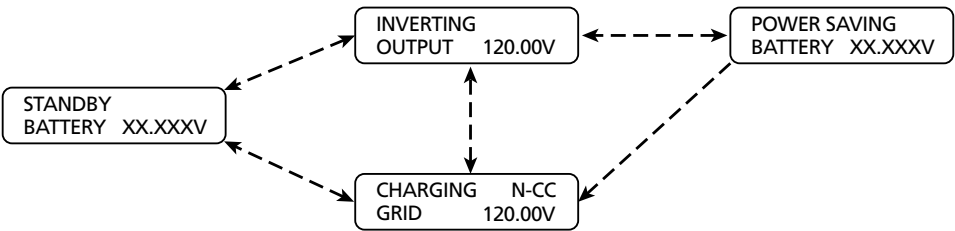
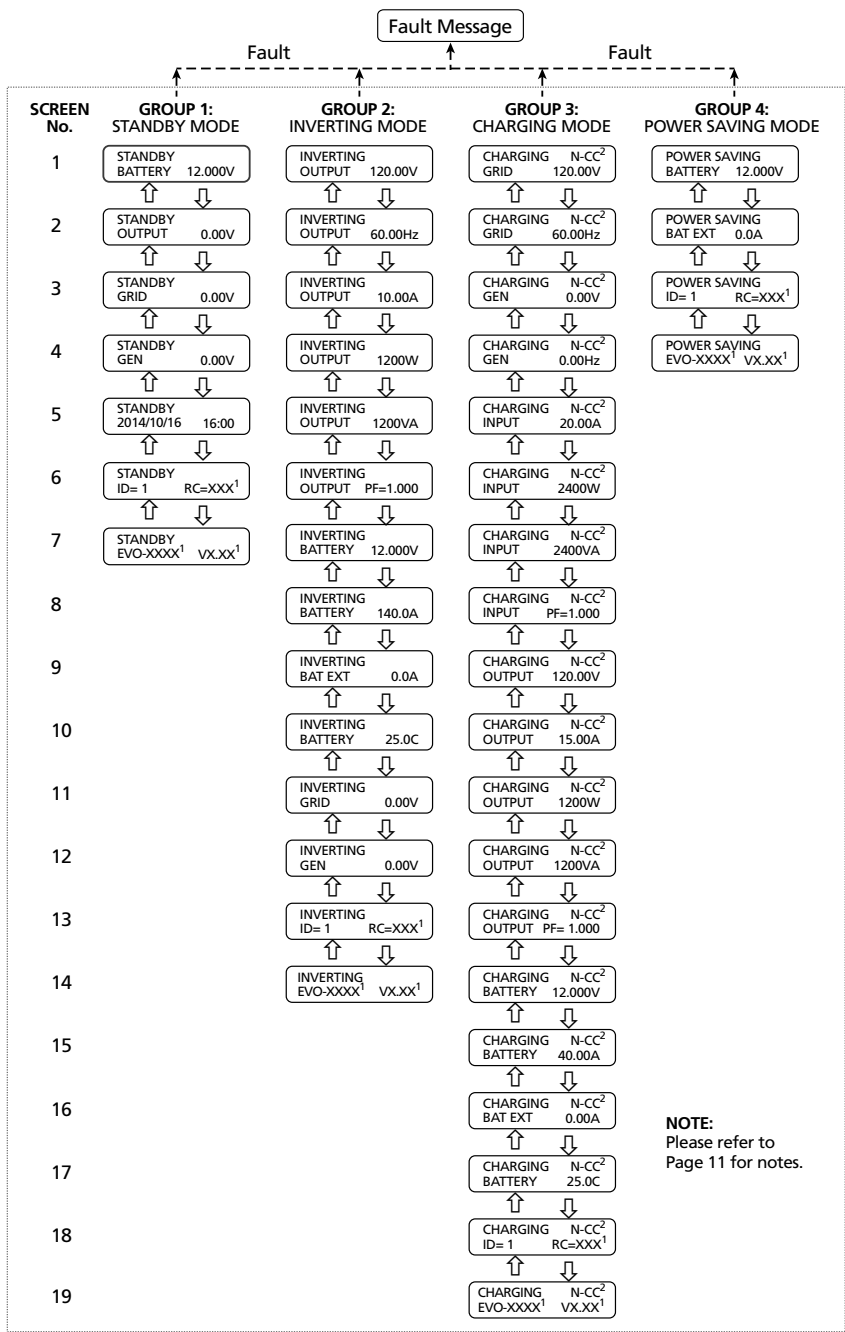
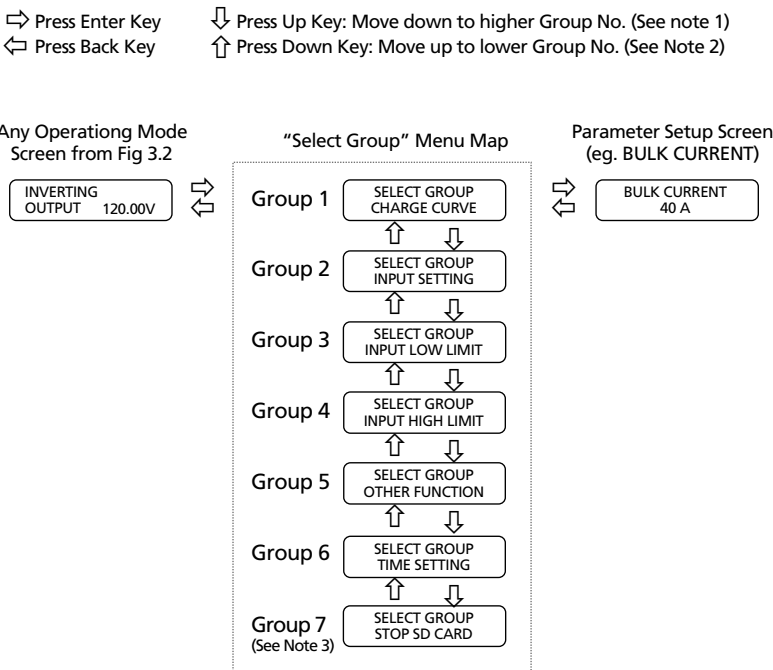

Fig 3.1 EVO-RC Mode Screens
Fig 3.2 Overall Operating Mode Display Screen Menu Map
Fig 4.3 "Select Group" Menu Map and Example for Setting Bulk Current
For the Standby Mode to be switched ON, the EVO™ should be in ON condition and should be operating in one of the 3 Operating Modes – “Inverting” or “Charging” or “Power Saving” (See Fig 3.1). When Standby Mode is switched ON, the EVO™ will exit its Operating Mode i.e. inverting or charging / AC pass through will be suspended.
(Fig 3.1)
There are 4 Operating Modes for the EVO™ Inverter/Charger that will be displayed on the Remote Screen at any given time (see Fig 3.1): (i) Standby (ii) Inverting (iii) Charging and (iv) Power Saving. Each mode has several screens of status information such as Voltage/Current/Power etc. as detailed at Section 3.6.2 and Fig 3.2. The majority of Mode Screens shown in Fig 3.1 are self explanatory, but the Charging Mode Status Screens require additional details which are shown at Section 3.6.1.
Please refer to 19 Screens shown against Screens 1 to 19 under Group 3: "CHARGING MODE" at Fig 3.2. The 1st line of the Display Screen for Charging Mode shows CHARGING on the left and abbreviated information format "Charging Mode - Charging Stage" on the right corner. The following abbreviations have been used:
For example, in Fig 3.2, the 1st line of information under Column 4 (Group 3) "Charging" shows "N-CC" in the right corner. This means that the unit is in Normal (N), 3-Stage Charging Mode and is in Constant Current (CC) Bulk Stage.
Overall Operating Mode Display Screen Menu Map is shown at Fig 3.2. Any screen within the Menu Map can be identified by 2 co-ordinates: "Operating Mode Group No." (Column) and "Screen No." (Row).
NOTES FOR FIG 3.2:
The desired Parameter Setup Screen can be reached by navigating through the “Parameter Group” Menus as shown in the Parameter Group Menu Map at Fig 4.3.
Please refer to Fig 4.3 below.
The **Enter** key is used to enter Parameter Setup Mode from any Operating Mode Screen in Fig 3.2. Example in Fig 4.3 below starts with Inverting Mode Screen (Operating Mode Group 2, Screen 1 in Fig 3.2). After the **Enter** key is pressed, the **Up/Down** keys are used to navigate to the different Parameter Groups (Groups 1 to 7). When the Group for the desired setting is displayed on the LCD, the **Enter** Key is used again to select this Group. The **Up** and **Down** Keys are used to move to the individual parameters within the Group.
NOTES FOR FIG 4.3:
Starting from any of the 4 Operating Mode Screens (shown at Fig 3.1), press **Enter** key. Screen "SELECT GROUP, CHARGE CURVE" as shown on the left will be displayed (Group 1 of "Select Group" Menu Map, Fig 4.3)